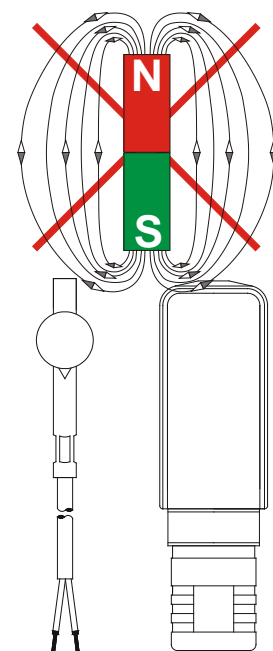

Fig. 4
- ↪ Make sure that there are no external magnetic fields in the immediate vicinity of the flow switch, since these can impair device functioning (→ Fig. 4).